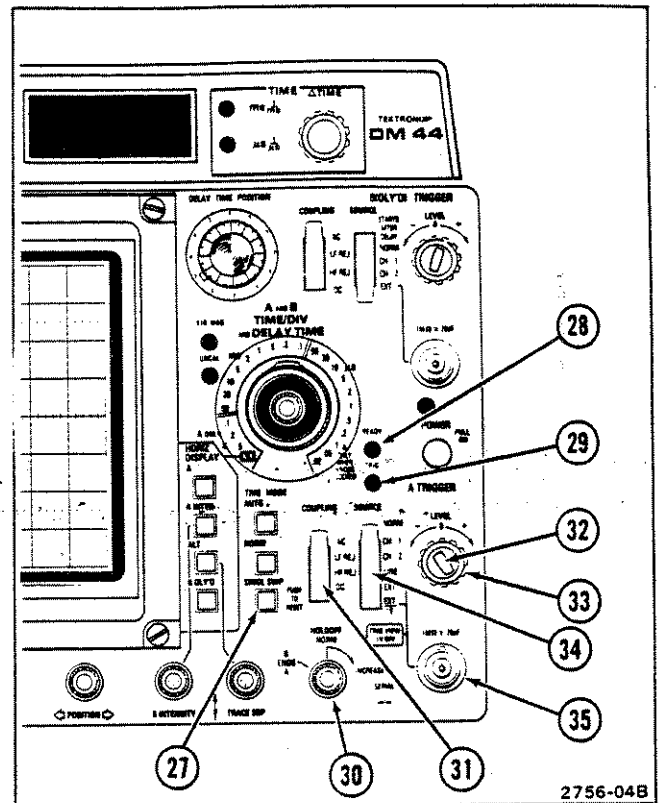

Figure 4. Trigger controls, connectors, and indicators.
Refer to Figure 4 for location of items 27 through 35.